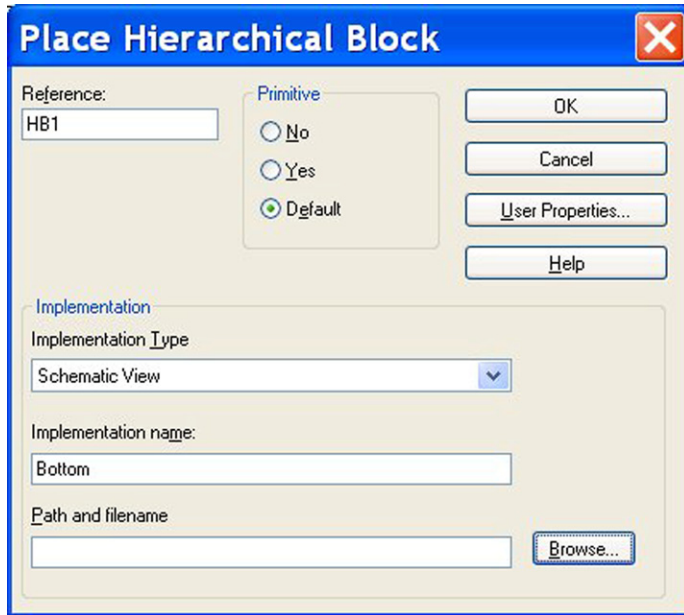

FIGURE 20.16
8. In the Project Manager, select **Place** > **Hierarchical Block** and enter a value for the reference designator. In **Implementation Type**, select **Schematic View** and enter **Bottom** as the **Implementation name** as shown in Figure 20.16. Leave the **Path** and **filename** blank as the schematic is part of the project. Click on OK.